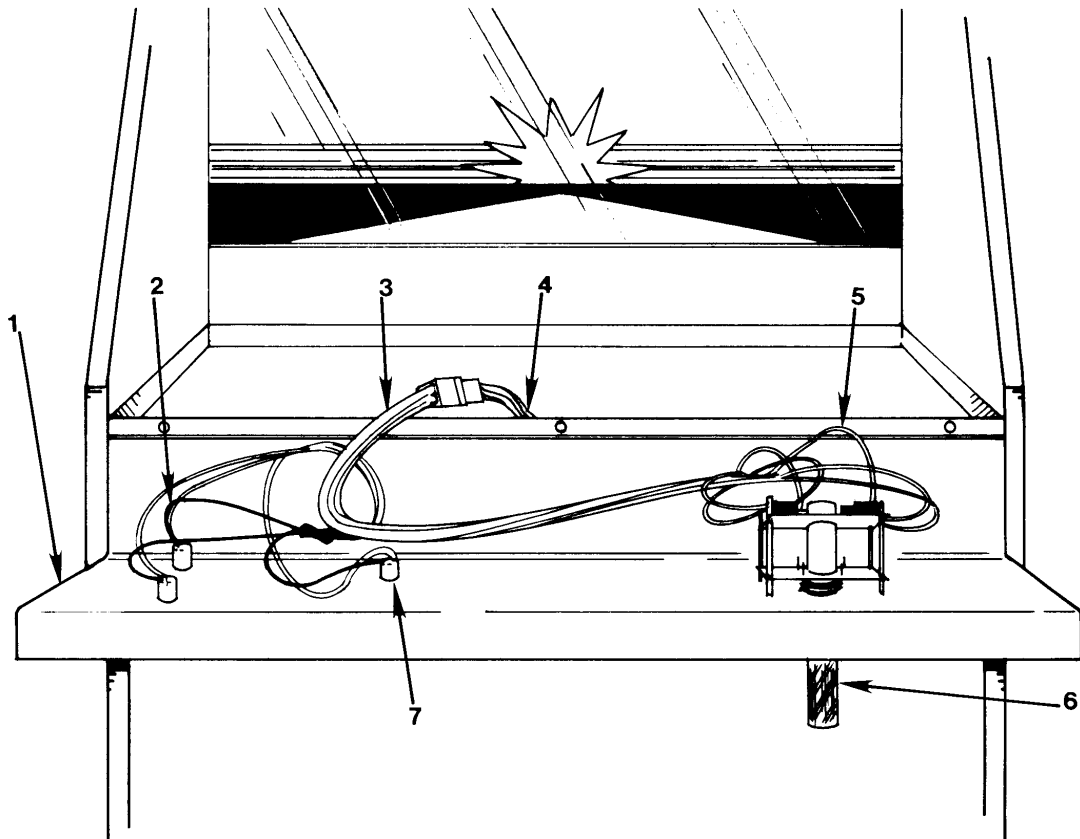

Figure 5: Control Panel (Late Production)
B. To Service Late Production Control Panels (see Figure 5)
5. From the front of the cabinet, pull the control panel out and down; let it rest on the open coin door (see Figure 5).